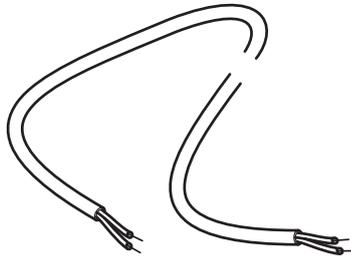

Fig. 4
9. On longer flue runs (over 4 metres) it will be necessary to extend the IFOS cable using the available cable extension (part no. 7724260, Fig. 4).